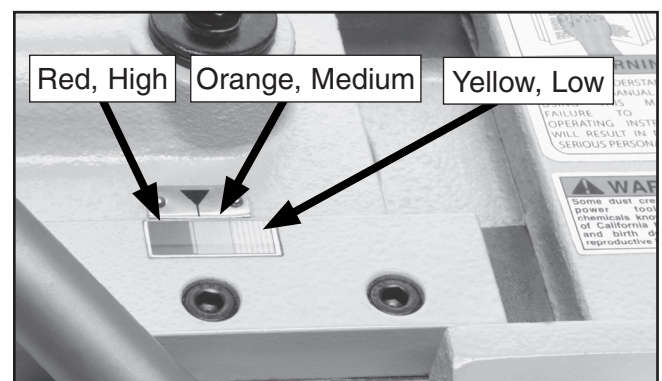

Figure 37. Blade tension scale.
- Using the graduated scale on the blade tension indicator (**Figure 37**) turn the blade tension handwheel so the tension is in the orange range when using the saw. When the saw is not being used, adjust the tension to the yellow range.